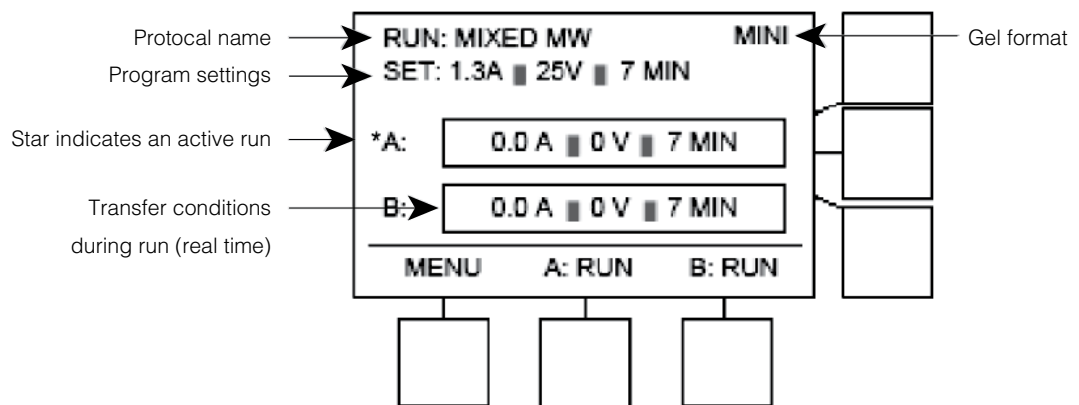

Fig. 13. Transfer Turbo Run screen.
3. After selecting your protocol press the navigation button that corresponds to A:RUN for the cassette in the upper bay or B:RUN for the cassette in the lower bay (Figure 13). A beep will sound to signal the start of the transfer for the chosen cassette. If you are running both cassettes, press the button to begin one transfer (either A:RUN or B:RUN), and then press the other button at any time during the run to immediately start the second cassette. **Both cassettes must use the same protocol.**